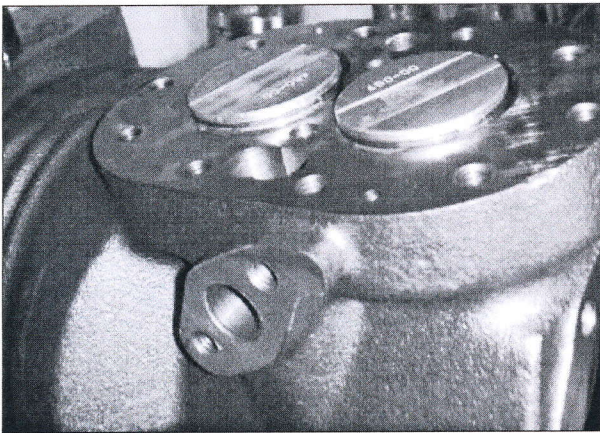

Figure 3
- Rings are assembled onto the piston above the deck surface as shown in Figure 3.